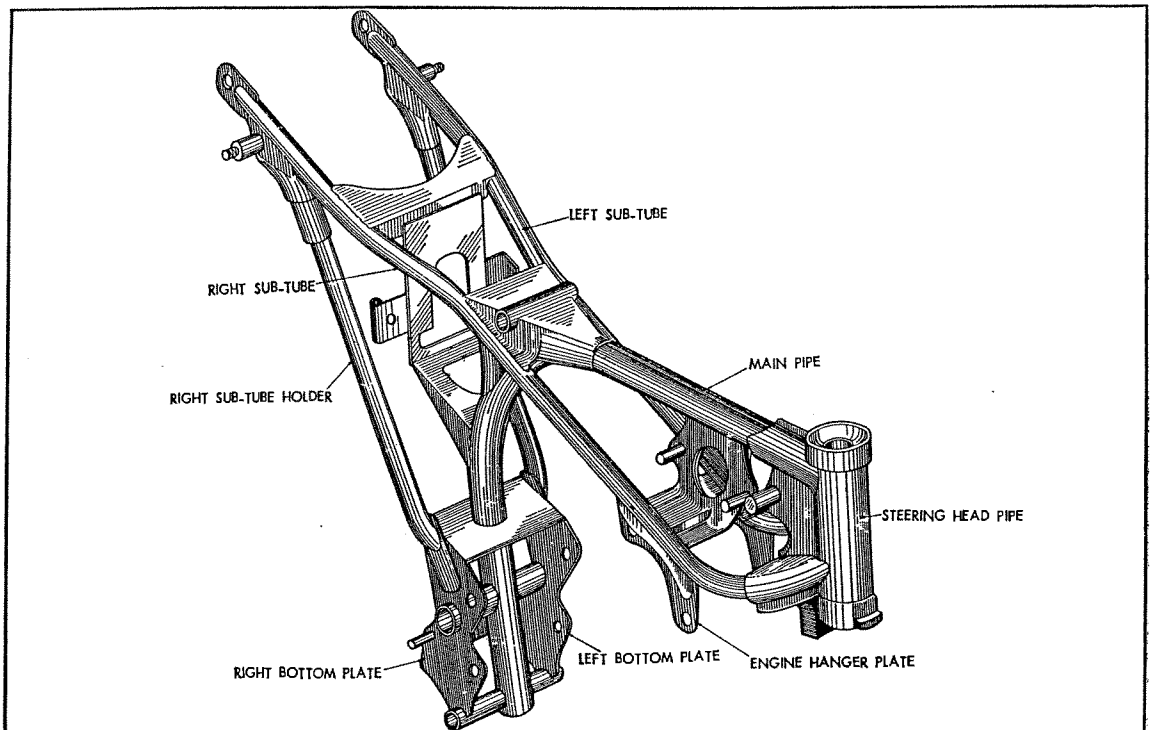

Fig. 4.35 Pushing fuel tank from the rear side
3. Fit the front and rear cushions to the frame body. The front cushion should be inserted by pushing the fuel tank from the rear. The nut of the rear brace should be tightened for securing the cushion. (Refer to Fig. 4.35)